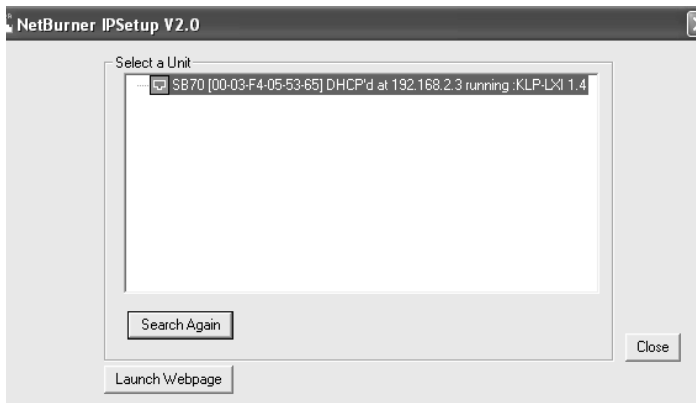

FIGURE 5. PS FIND SCREEN
8. From the PS Find screen (Figure 5) click **Launch Webpage** to view the Instrument Home page (Figure 2). Verify the model is correct, matching the voltage and current of the BOP channel in use. The serial no. of channel 1 ends in A, channel 2 ends in B. To verify the correct unit/channel has been selected.click ID INSTRUMENT at the left of the Instrument Home page. This causes the associated LAN indicator (see Figure 8) on the BOP 2X-DE rear panel to blink.
To run the utility from your PC download the psfind.zip file to your computer. Extract psfind.exe from the zip file to a location of your choice, then double-click psfind.exe to run the application. A separate window opens as shown in Figure 5. Once the search is completed, all found units are displayed in the Select a Unit window (the MAC address appears in parentheses). If you do not see your device in the Select a Unit window or if the icon to the left of the selected instrument is red (not green), make